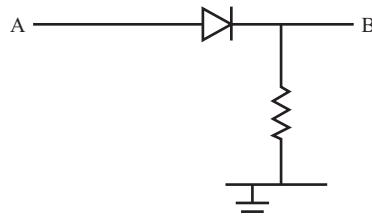
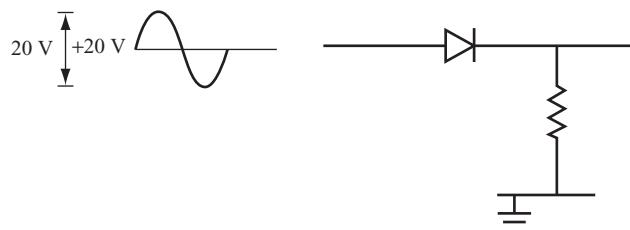

FIGURE 11.1
FIGURE 11.2
Assume that you apply + 20 volts DC at point A of the circuit, as shown in Figure 11.1.
- 2** Figure 11.2 shows the circuit in Figure 11.1 with a 20 V_{pp} AC input signal centered at + 20 volts DC.